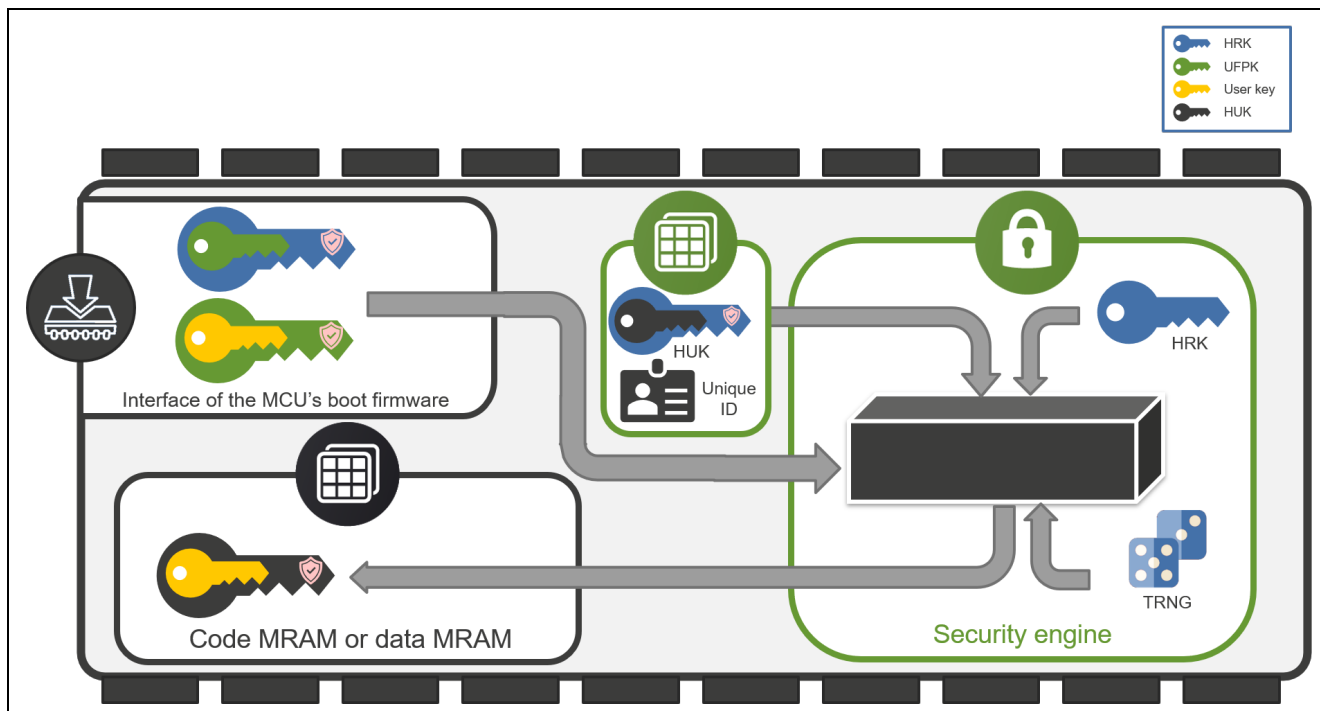

Figure 2-4 Injecting the User Key via the Serial Programming Interface (Protected Mode)
5. Finally, inject the key injection data by using the RFP. As shown in Figure 2-4, the security engine to which the key injection data were injected uses the HRK to unwrap the W-UFPK inside the security engine, then uses the unwrapped UFPK to unwrap the wrapped user key.